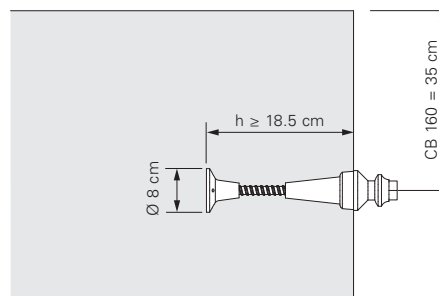

Fig. B1.04
4. Completely screw in and tighten Threaded Anchor Plate DW15 (5.4) on the tie rod (5.5). (Fig. B1.04)